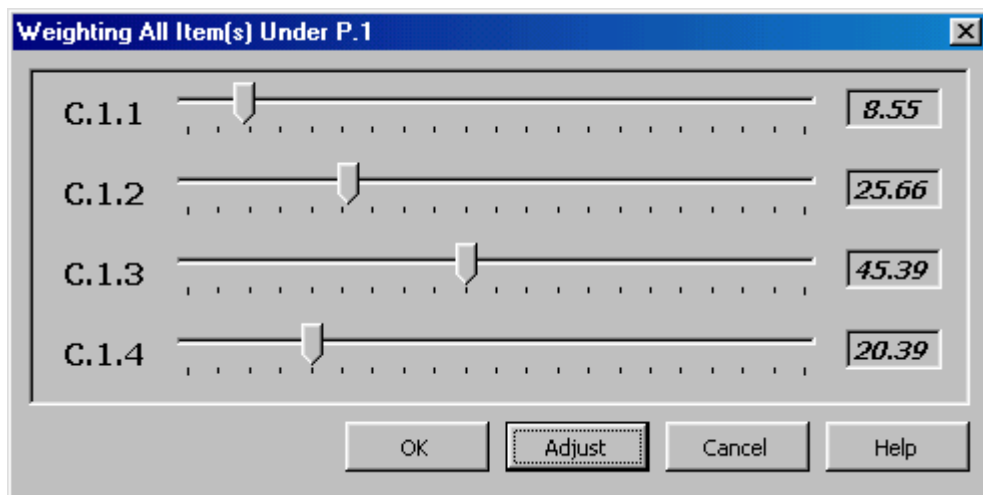

Figure 14. Weighting items
- Click "Adjust" to adjust the total weight to a hundred, and then click "OK". (See Figure 14)